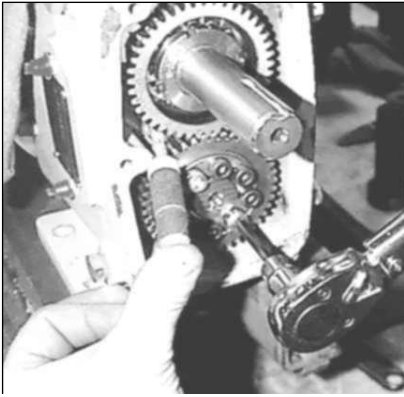

Figure 37 - Remove Gear and Locking Assembly
2. Loosen the locking screw or screws on the locking assembly and tap them lightly with a mallet (or use thread jacking holes) to loosen the gear. Remove the gear and locking assembly (Figure 37).